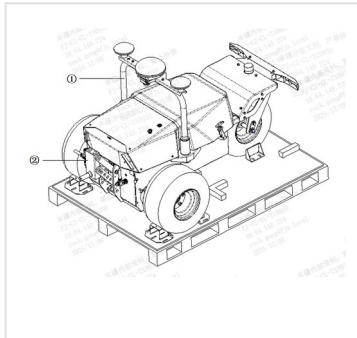

Figure 13
8. Remove the small accessories from the pallet and assemble the lifting bracket and antenna bracket (as shown in Figure 13).